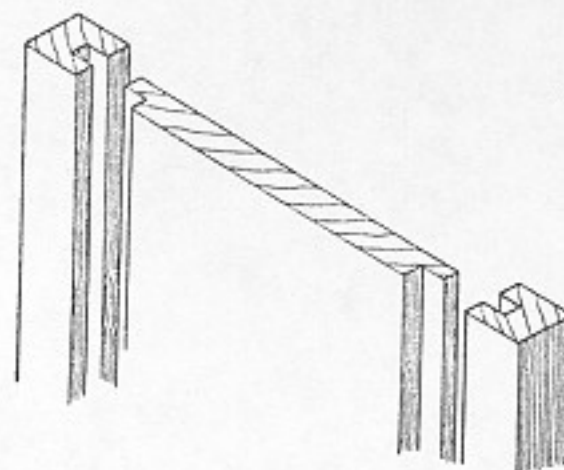

Fig. 189. Groove-and-rabbet joint.
2. A rabbet is then planed on the edge of the piece to be joined to it (Fig. 189).